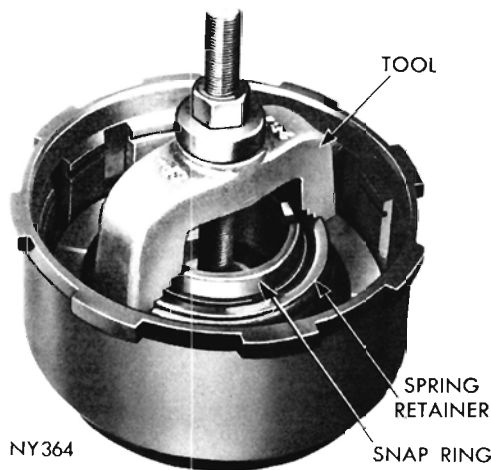

Fig. 89—Removing or Installing Front Clutch Retainer Snap Ring
(1) Use a screw driver to remove the large snap ring that secures the pressure plate in the clutch piston retainer. Lift the pressure plate and clutch plates out of the retainer.
(2) Install compressor, Tool C-3575 over the piston spring retainer, as shown in Figure 89. Compress the
(1) Lubricate and install the inner seal ring on hub of the clutch retainer. Make sure lip of the seal faces down and is properly seated in the groove.
(2) Lubricate and install the outer seal ring on the clutch piston, with lip of the seal toward bottom of the clutch retainer. Place piston assembly in the retainer and, with a twisting motion, seat the piston in the bottom of the retainer.
(3) Place the spring on the piston hub and position the spring retainer and snap ring on the spring. Compress the spring with Tool C-3575 (Fig. 89), and seat the snap ring in the hub groove. Remove the compressor tool.
(4) Lubricate all the clutch plates, install one steel plate followed by a lined plate until all the plates are installed. Install the pressure plate and snap ring. Make sure the snap ring is properly seated.